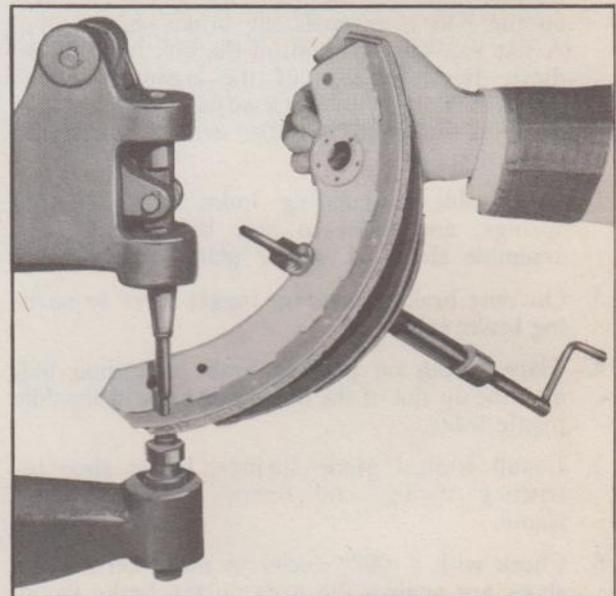

Fig. 19—Riveting Brake Lining to Shoe
- After the end holes in the lining and shoe are in alignment, the rivets may be installed in both ends, Fig. 19.